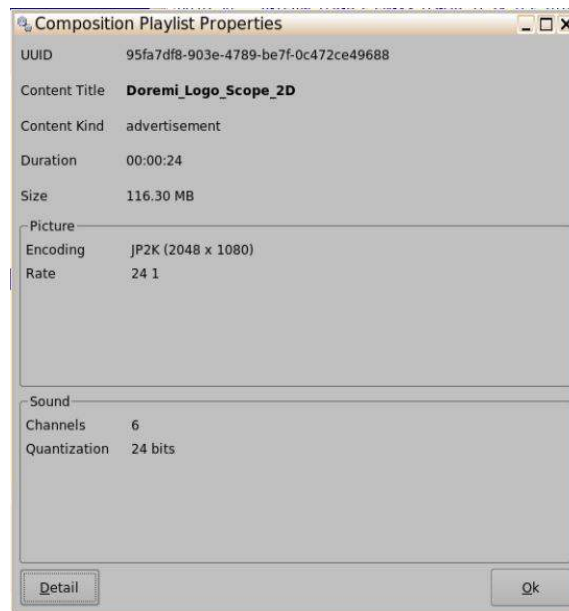

Figure 63: Example of Information Related to Audio-Visual Content
- With audio-visual elements, a window (Composition Playlist Properties) listing the characteristics of the element will be displayed (Figure 63).